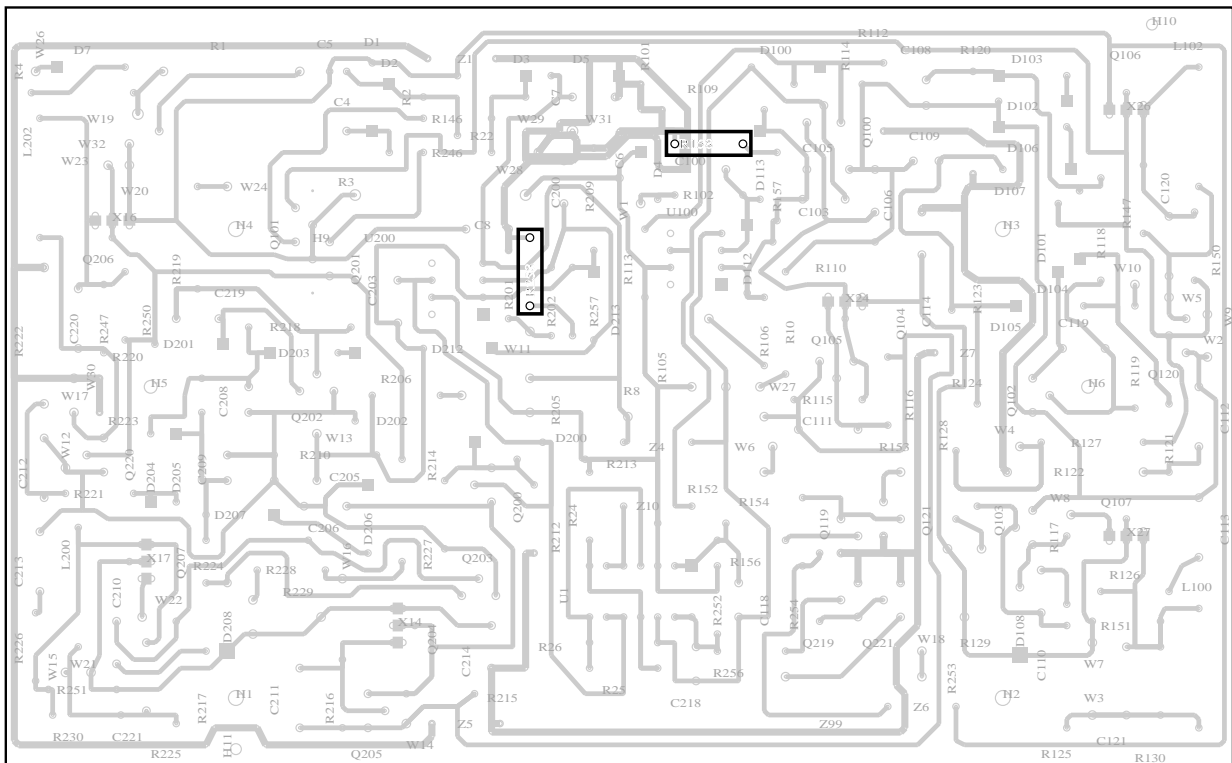

Fig. 7.1 Main Circuit Board (Component Side) and Input Sensitivity Jumper Locations
4. Solder #22 jumper wires at the locations labeled R158 and R258 on the main circuit board (see Figure 7.1).